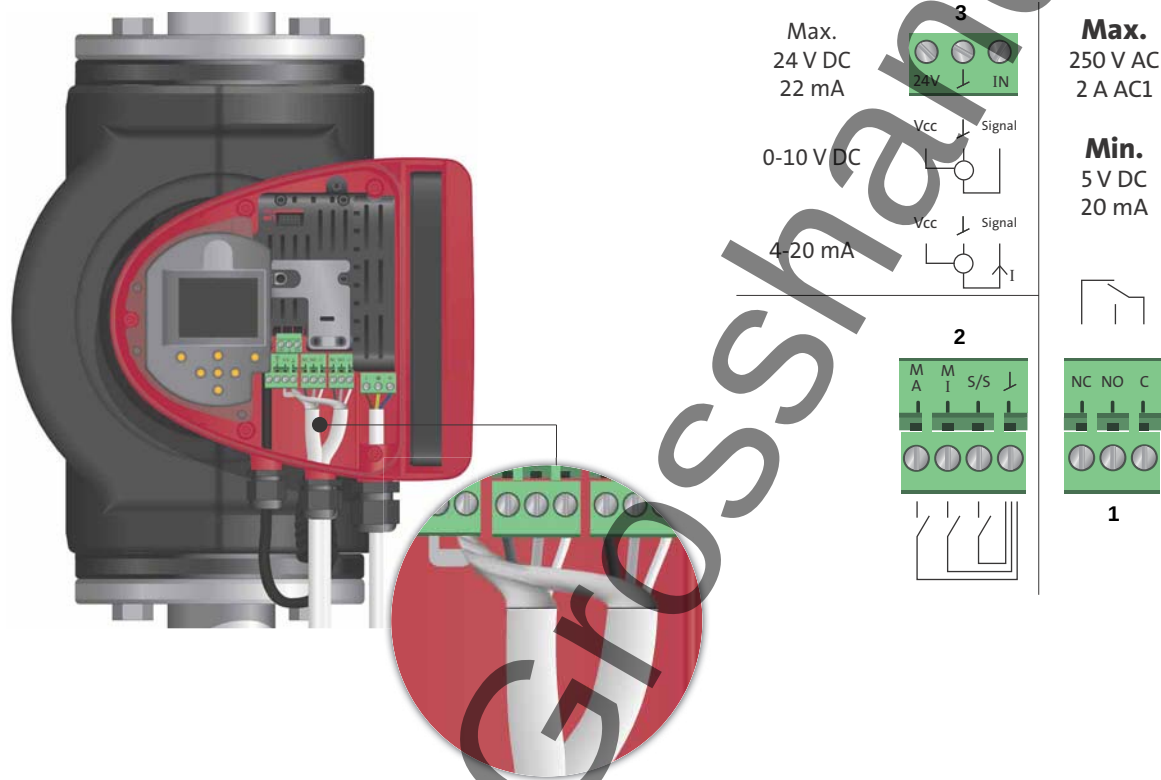

Fig. 17 Connection diagram
See fig. 17, pos. 1.
See fig. 17, pos. 2.
See fig. 17, pos. 3.